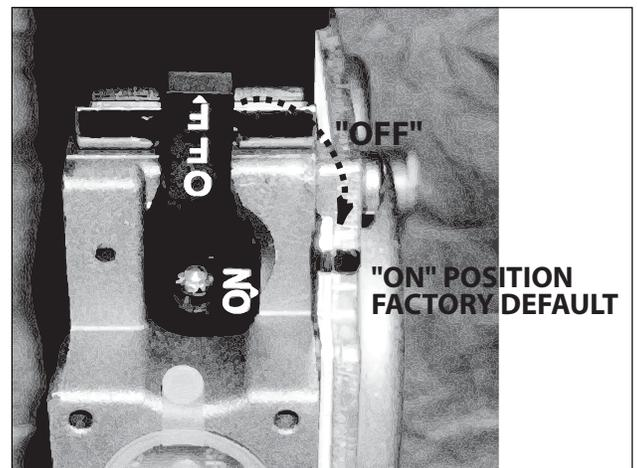

Fig. 02
*There is a manual shut-off lever on the internal heater control valve/regulator. This lever is shipped in the "ON" position - Fig. 02 (Default position).*